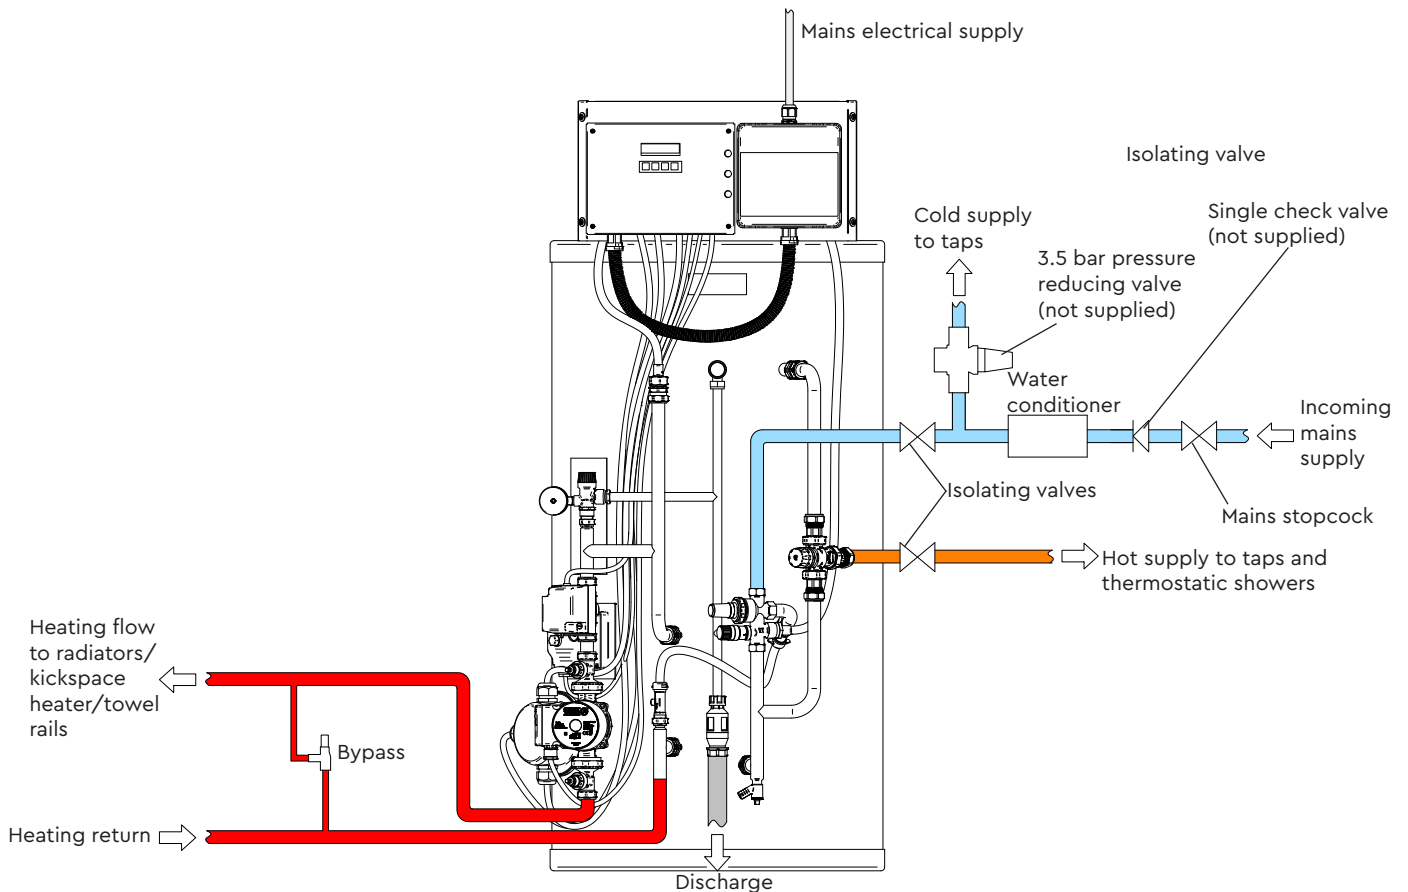

Fig. 3
- 1.7 **Shut off valves:** Lever valves are supplied separately and must be fitted as close as possible to the unit on the mains cold supply feed to the combination valve and to the blending valve (see Fig. 3) feeding hot water services.
- 1.10 **Mains pressure reducing valve (not supplied):** If the mains pressure is more or fluctuates above 4 bar, a mains pressure reducing valve must be fitted to the cold services in order to balance hot/cold water supplied. This should be positioned as shown, refer to schematic in Fig. 3.